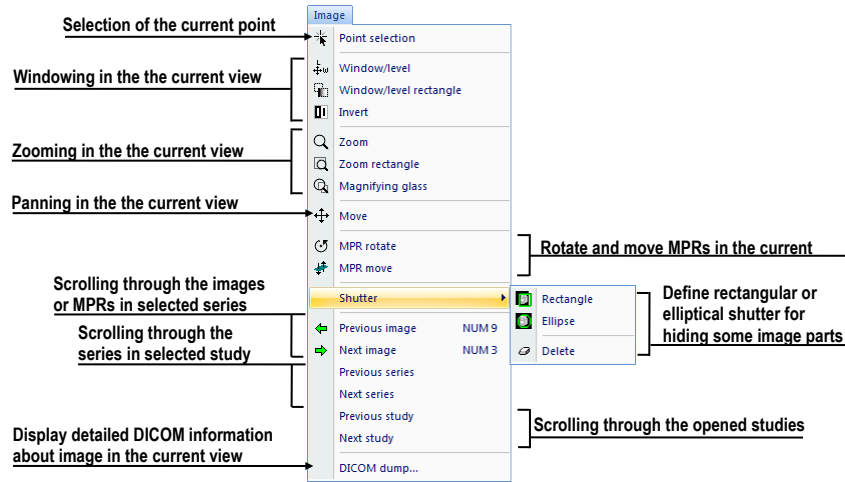

Figure 37 – Image menu
- **Image** – the viewing and handling of images. It contains a comprehensive group of functions for windowing and zooming images in a view, creating shutters and reading raw DICOM data of images (see Figure 37).